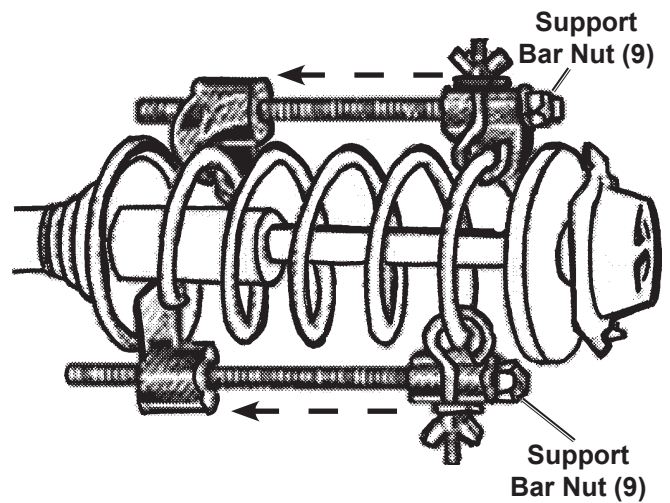

Figure 5 – Tighten the Nuts Evenly
1. Check the Safety Hooks (6) to ensure they are installed correctly.
2. Rotate the Strut Assembly so you can easily access the Support Bar Nut (9) on each Strut Spring Compressor.
3. Begin to tighten the Support Bar Nut (9) on one Strut Spring Compressor as shown in Figure 5. Tighten the Support Bar Nut (9) about one inch, then tighten the Support Bar Nut (9) of the other Strut Spring Compressor an equal amount.